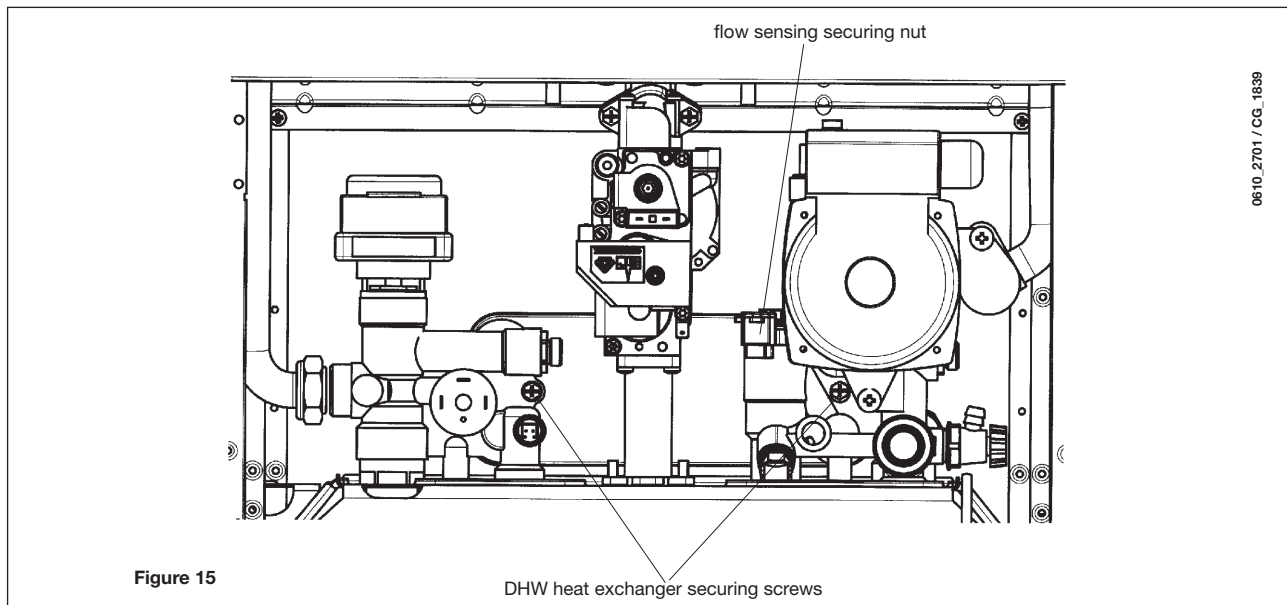

Figure 15
- remove the two screws (right in front of you) securing the DHW heat exchanger and pull it off its seat (figure 15).
- unscrew the nut on the flow sensing assembly (Figure 15);